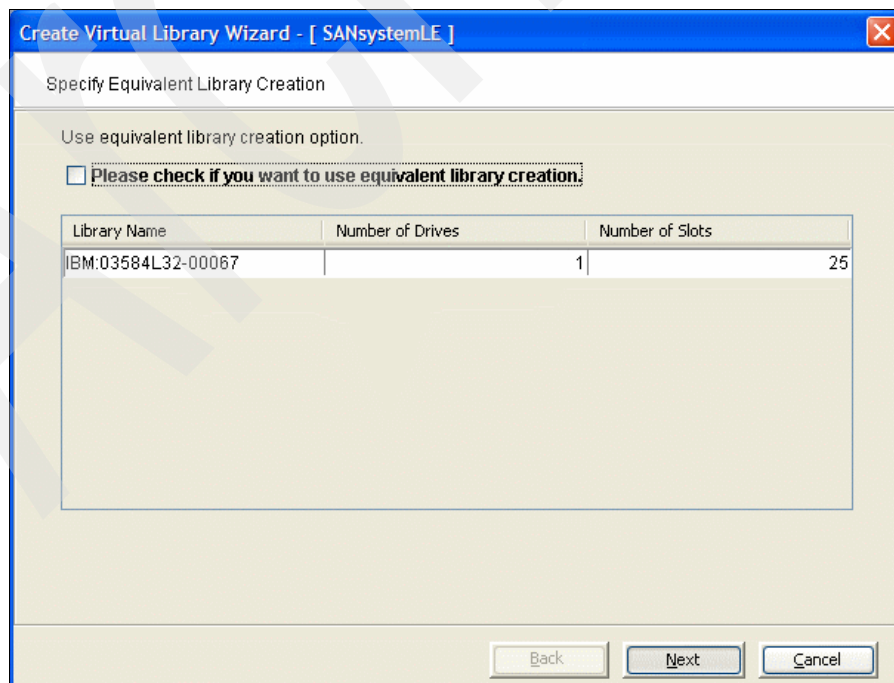

Figure 6-35 Virtual library creation: Specify Equivalent Library Creation
2. The Specify Equivalent Library Creation window (Figure 6-35) only appears only if: